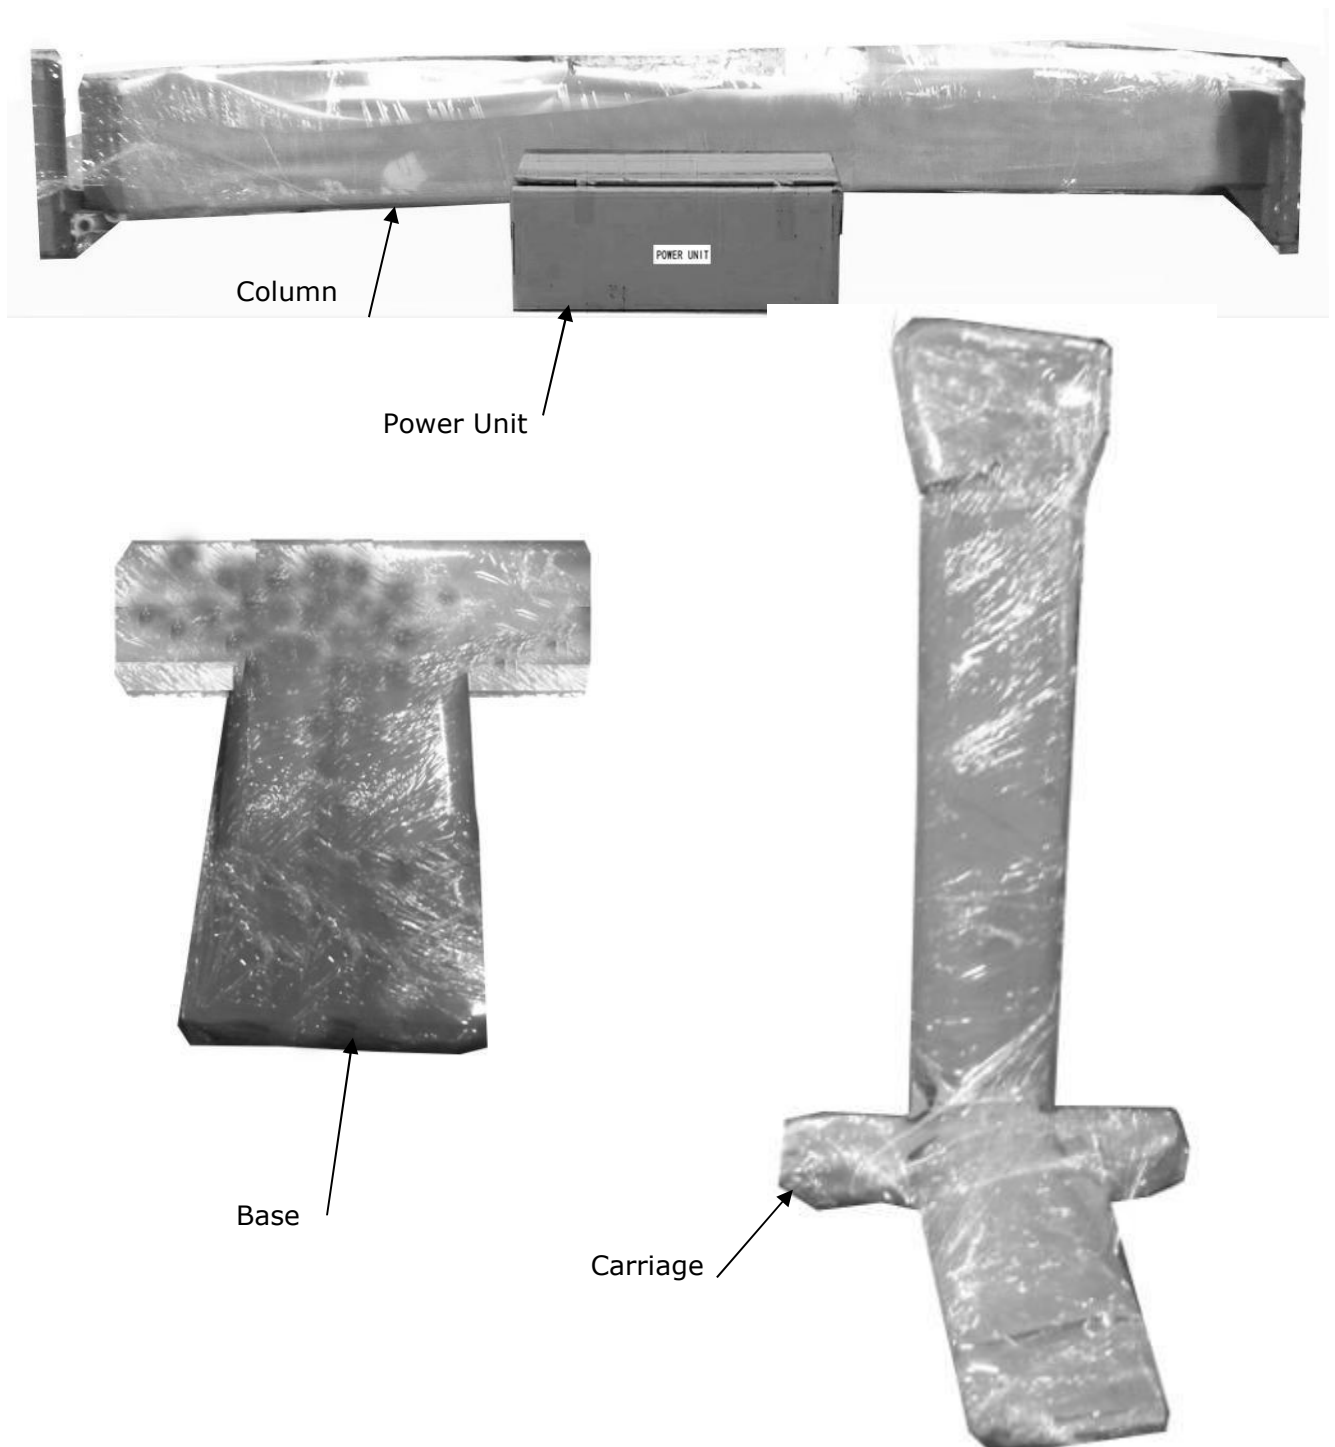

Fig.5
1. Packaged lift and hydraulic power unit (See Fig. 5)